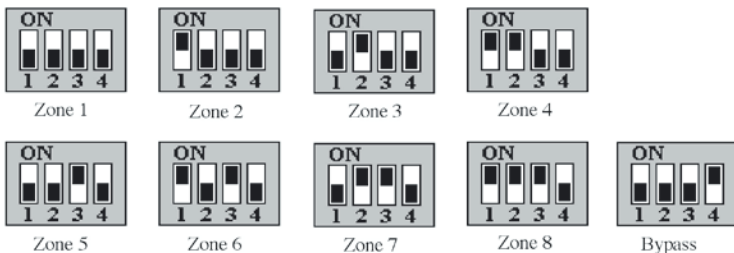

Figure 2. Damper address setting
- 2) **Allocate and set unique addresses to all zones with consideration of spill privileges for the zones.** Please refer to the Zone Address section for details. Please note that bypass damper has a special address as shown in Figure 2.
Each damper should have a unique address in the serial control bus to be identified by the touchpad. This address is configured by a standard 4-way DIP switch inside the damper controller to provide 8 unique zone damper addresses and a special address for the bypass damper. All damper addresses can be set as shown in Figure 2.